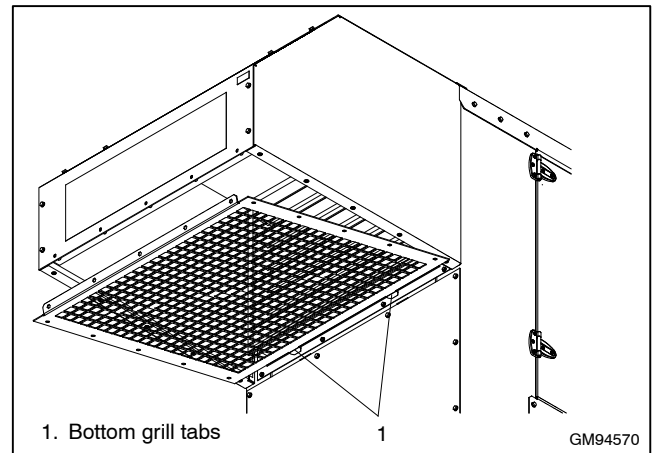

Figure 5 Bottom Grill Installation
- 2.5 To attach the bottom grill, insert the grill tabs into the enclosure slots and then secure the grill to the side panels and top hood panel. See Figure 5.